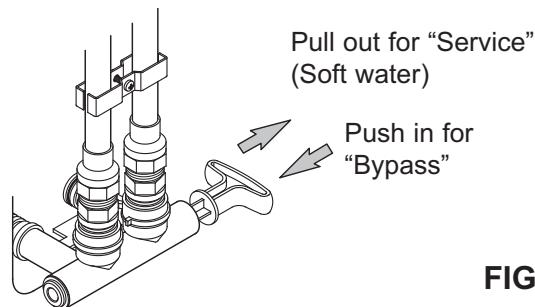
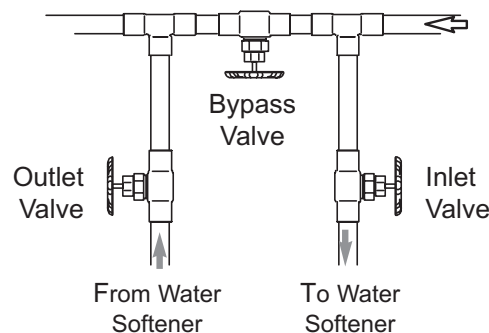

FIG. 7
FIG. 8
Always install either a single bypass valve (provided), as shown in Figure 7, or, if desired, parts for a 3 valve bypass system (not included) can be purchased and assembled, as shown in Figure 8. Bypass valves allow you to turn off water to the softener for maintenance if needed, but still have water in house pipes. Pipe fittings must be 3/4" minimum.
CAUTION: The house cold water pipe (metal only) is often used as a ground for the house electrical system. The 3-valve bypass type of installation, shown in Figure 8, will maintain ground continuity. If you use a plastic bypass valve at the unit, continuity is broken. To restore the ground, do the following:
2. Place the bypass valve (single or 3 valve) into the "bypass" position. See Figures 7 & 8 on Page 7.